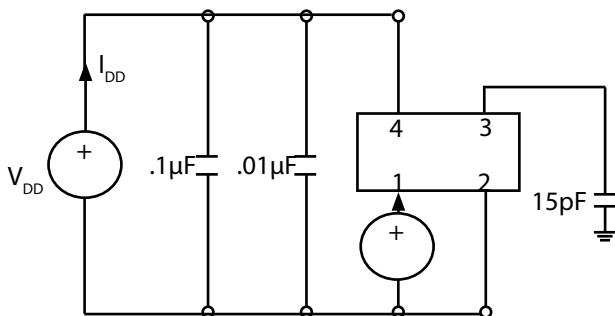

Fig 1: Test Circuit
- 2) Parameters are tested with the test circuit shown in Fig 1.
- 2] Parameters are tested with the test circuit shown in Fig 1.
2] Parameters are tested with the test circuit shown in Fig 1.